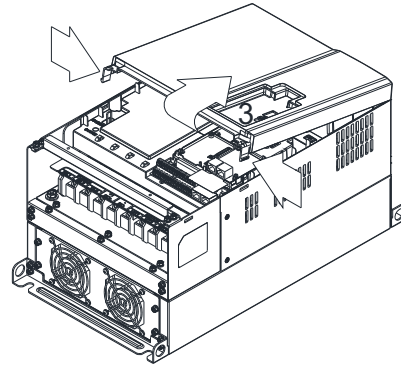

Figure 2
2. (Figure 2) Loosen screw 3; press the tab on the right and the left to remove the cover. Screw 3 Torque: 6–8 kg-cm / [5.2–6.9 lb-in.] / [0.6–0.8 Nm]